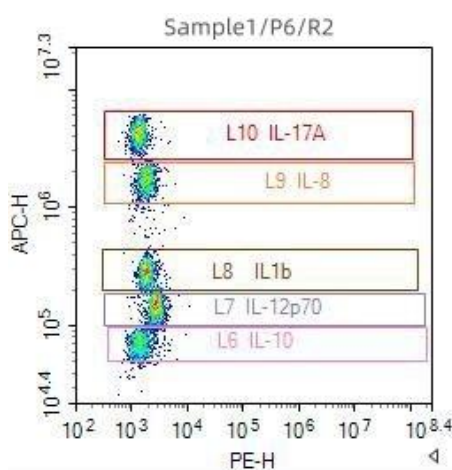

Figure 3
- (3) Establish two logarithmic density plot templates with PE as the X-axis and APC as the Y-axis. Display the microspheres within the R1, R2, and R3 gates, respectively, so that the microsphere populations are clearly distributed on the scatter plots and the PE fluorescence intensity of each factor can be displayed. See Figures 3, 4, and 5.